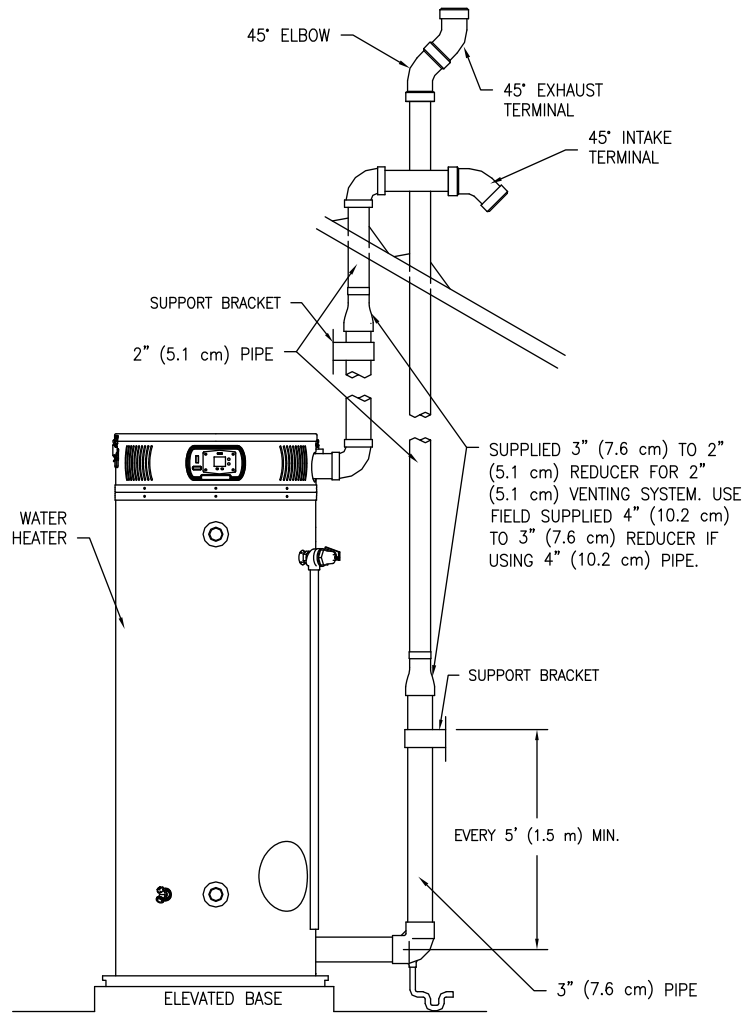

Figure 14. Typical Vertical Direct Vent System Installation
- Install the exhaust vent and air intake plastic pipes as shown in Figure 14. Make sure that the installation meets the local codes and/or The National Fuel Gas Code ANSI Z223.1 (Latest Edition) or CGA/CAN B149 Installation Code (Latest Edition).